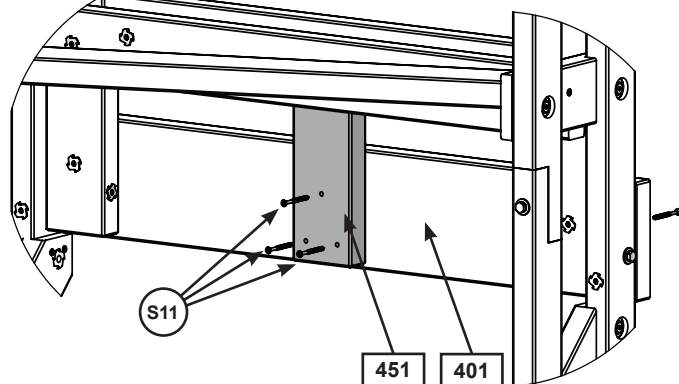

Fig. 45.1
A: Center (451) Slide Block so that it's under the (422) TNR Front Support and behind the (401) TNR Brace Support. Attach (451) Slide Block to the (422) TNR Front Support from the outside using 2 (S11) #8 x 2" Wood Screws. (fig.45.1 and 45.3)
B: Check to ensure that Brace Assembly is square and then install 2 (S11) #8 x 2" Wood Screws from the outside into each side of the (401) TNR Brace Support. From the inside install 3 more (S11) #8 x 2" Wood Screws to attach (451) Slide Block to the (401) TNR Brace Support. (fig.45.1, 45.2 and 45.4)